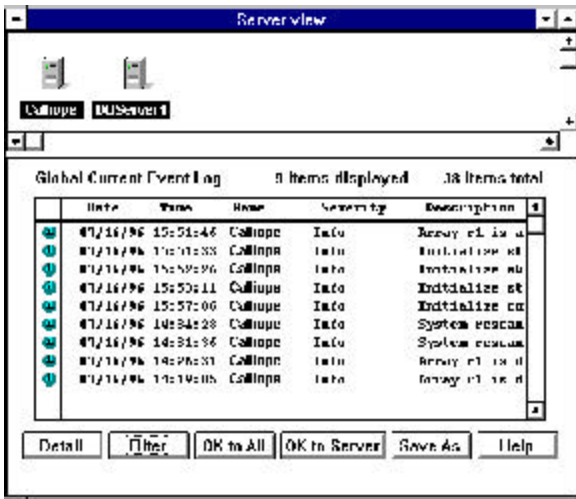

Figure 2-3: Listing of Server Events
1. Select **Server View** from the File menu. The Server View window appears. The Global Current Event Log at the bottom of this window lists server events, as shown in Figure 2-3.